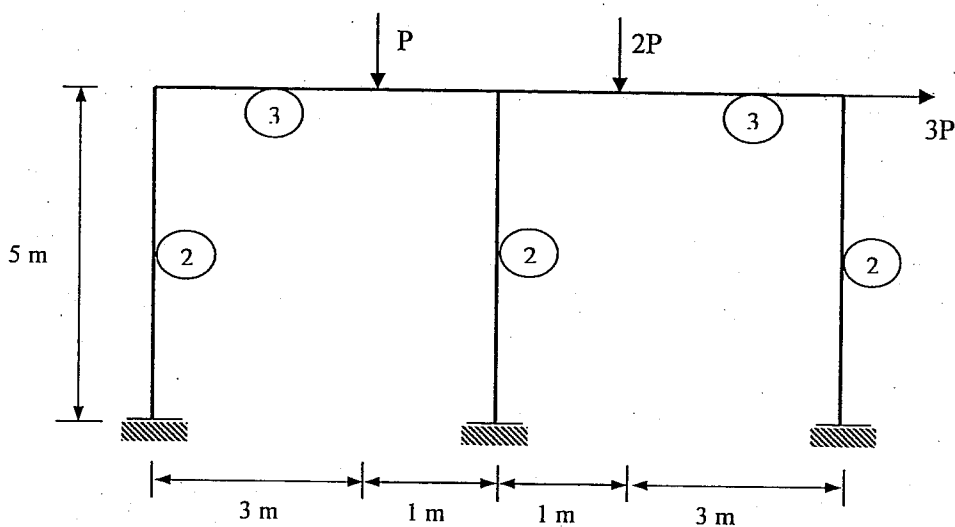

Figure 4: Two-bay frame structure
- (ii) A two-bay frame structure is shown in Figure 4. Dimensions and relative values of plastic moment ( $M_p$ ) is given in the figure.